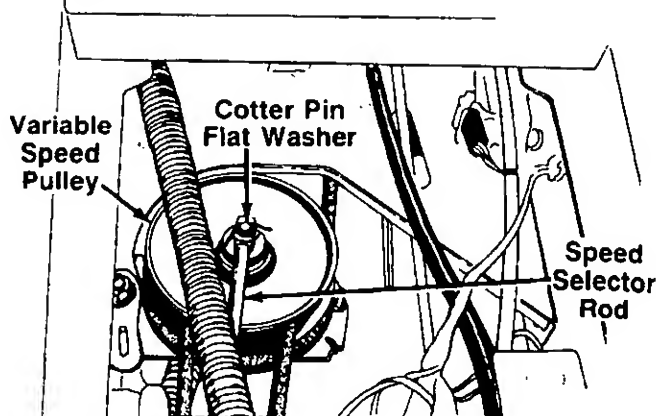

FIGURE 16.
8. Disconnect the speed selector rod from the variable speed pulley by removing the cotter pin and flat washer and lifting rod off the 3/8" pin. See figure 16.
2. Disconnect the speed selector rod from the variable speed pulley by removing the cotter pin and flat washer and lifting rod off the 3/8" pin. Refer to figure 16.